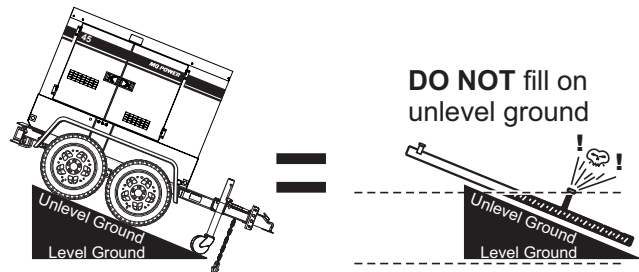

Figure 32. Only Fill On Level Ground
1. **Level Tanks** — Make sure fuel cells are level with the ground. Failure to do so will cause fuel to spill from the tank before reaching full capacity (Figure 32).